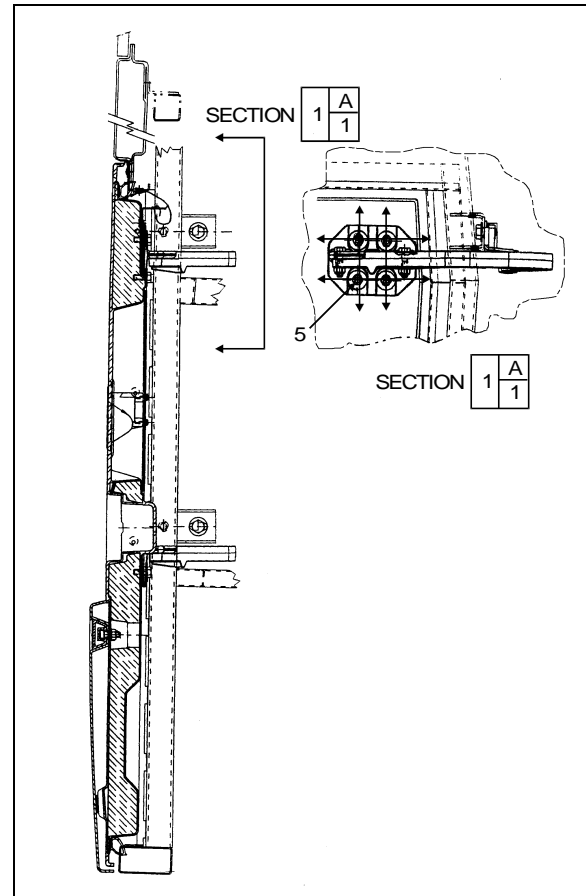

FIGURE 72: FRONT SERVICE DOOR
7. Loosen screws (5, Figure 72) to allow the door to be shifted "UP or DOWN".